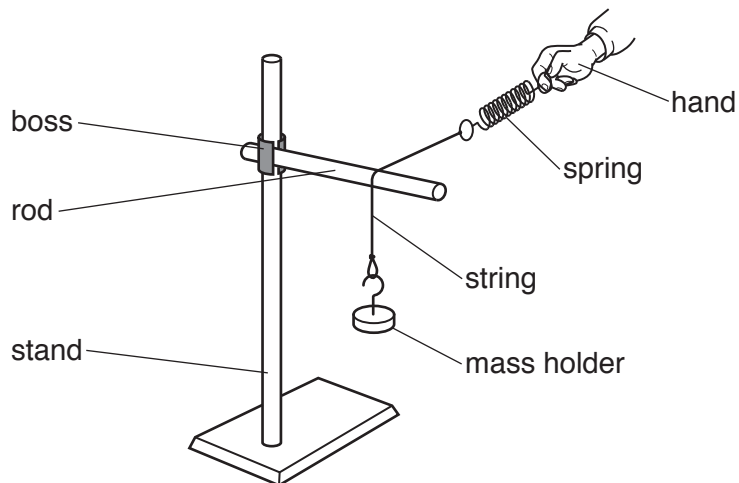

Fig. 1.2
- (b) Hold the free end of the spring in one hand and place the string over the rod, as shown in Fig. 1.2.